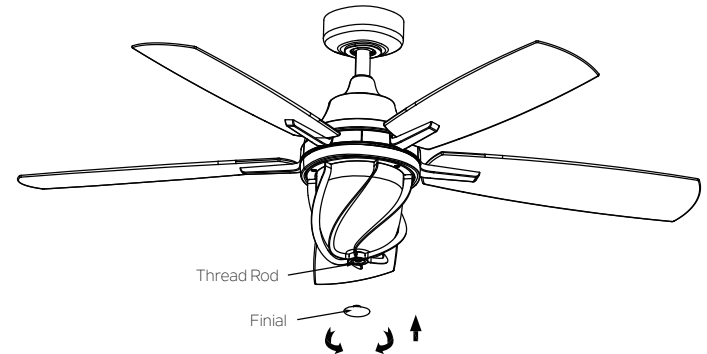

Fig. 25
**Step 6.** Screw the finial into the threaded rod of light kit. (Fig. 25)